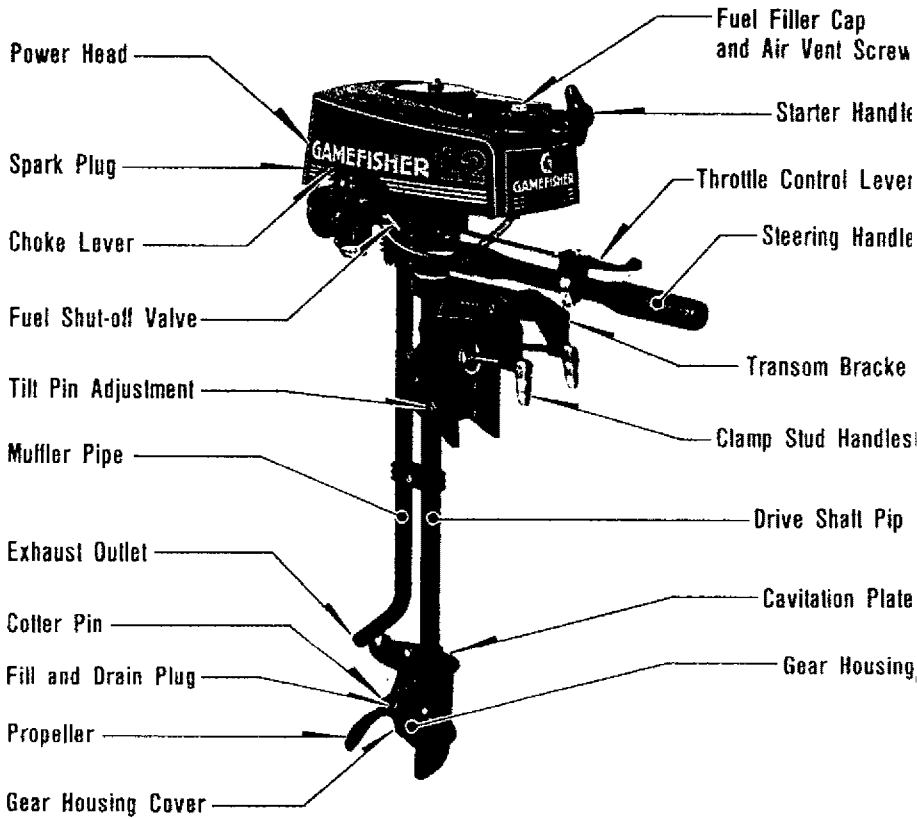

Figure 1
1. This outboard motor has special design features as shown in Figure 1.